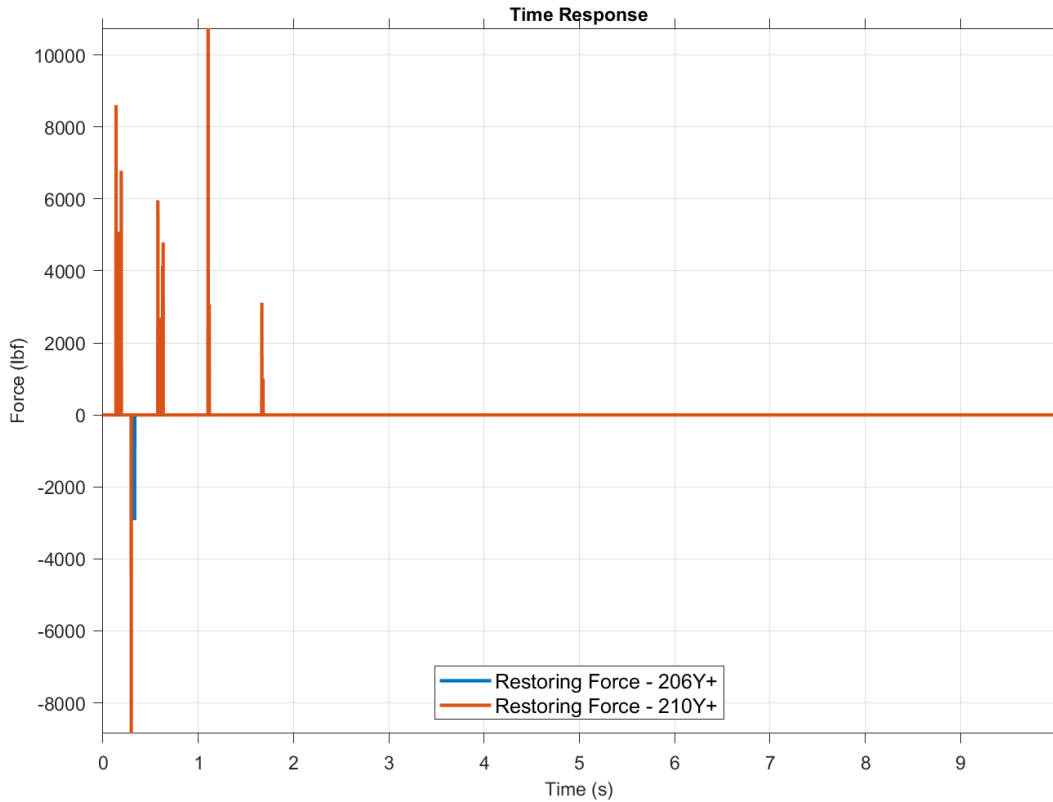

Figure 4-137. The restoring forces indicate the time ranges of the impacts.
12. Display the restoring force applied to the monitored limit DOF to determine the times and magnitudes of the impact forces for both limit DOF. Open the XY plot dialog by clicking the **Plot XY...** button. In the UIPLOT dialog, read in the restoring force function file "Displacement Limit\_nonlinearForce.fcn" from the *File, Load File* menu. Plot both restoring forces. Figure 4-137 shows the restoring forces, which indicate five separate impact time ranges for DOF 210Y and one for DOF 206Y.